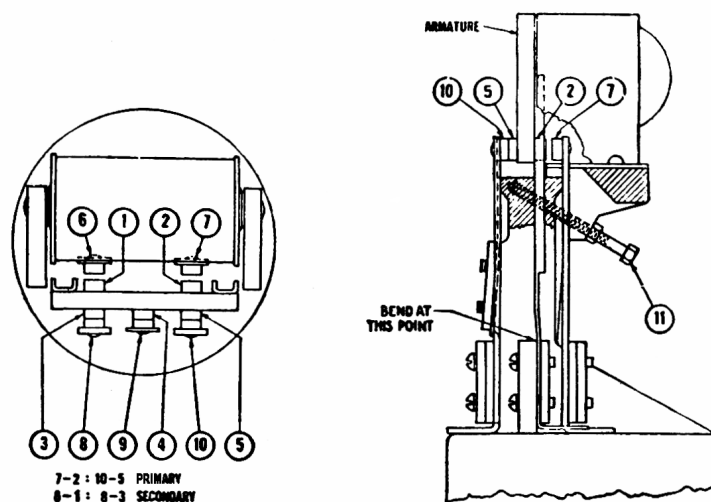

Figure 2.
- (3) Check alignment of armature support. Armature should be parallel with pole pieces and supports straight. Avoid a bow on shaft.
- (4) Clearance between edge of armature and pole pieces should be tested with five mil. paper strip. Make adjustment by loosening core retaining nuts and adjusting position of coil.
- (5) At normal position of armature, tension should be the same on both sides with armature touching lightly against front contact. Contacts 6-1 and 2-7 should just be making as centre contacts 9-4 are breaking. If necessary, make readjustment by means of hex. head adjusting screw and lock nut, indicated at "11" on Fig. 2.
- (6) A normal condition of sparking is indicated when the sparking at contacts 6-1 and 3-8 is equal. Similarly contacts 7-2 and 10-5 should show equal sparking 6-1 or 3-8 will not adjust to equal 7-2 or 10-5 however, and no attempt should be made to obtain such a
- (1) Make sure that coil is tight on core. If it is not, tie string around end of core. Tighten all retaining screws holding contact armature shafts on basework. The nuts holding the core to framework should also be tight. Do not loosen or tighten adjustment screw or locknut once adjustment has been set.
- (2) Stationary contacts must be tight against bakelite. If tightening screw does not remedy, bend until brought lightly against bakelite. Referring to left-hand sketch, Fig. 2, the following spring tensions are correct for the three contacts and two gape.
- (7) (a) Excessive sparking at all contacts which reduces after a minute of operation indicates low value of condensers C-29 and C-30.
- (8) To reduce contact sparking for instance, at contacts 1 and 6: Bend armature spring as indicated on right hand sketch, Fig. 2, away from "6" and towards "8." If bend is insufficient, negligible change will be obtained. If bend is excessive, sparking will be transferred from 6-1 to 8-3. The same method should be applied to any pair of contacts. Only a slight bend will be necessary, and that of such a degree that little change, if any, in the position of the armature contacts can be seen.